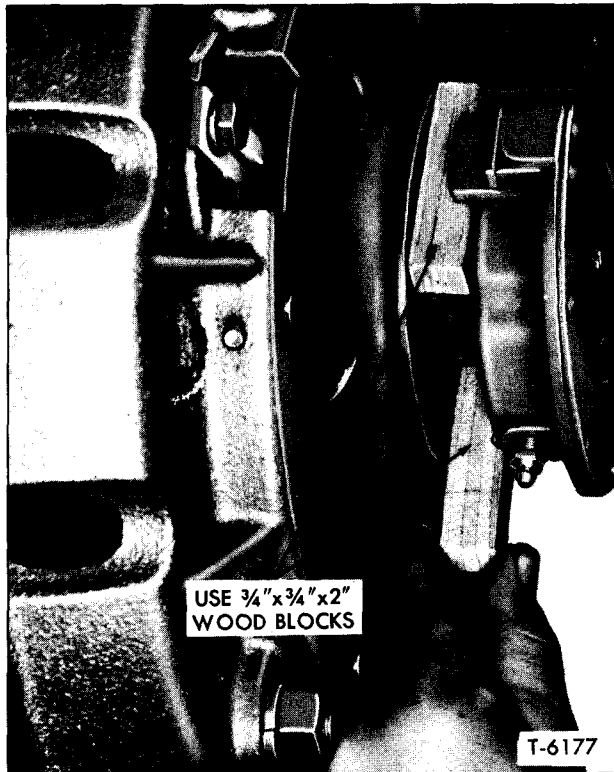

Figure 9—Use of Blocks Between Release Bearing and Spring Plate Hub
3. Install two ¾-inch blocks of wood between the front of clutch release bearing and clutch spring plate hub (see fig. 9). The wood blocks will relieve the heavy internal spring load, preventing the clutch from cocking during removal.